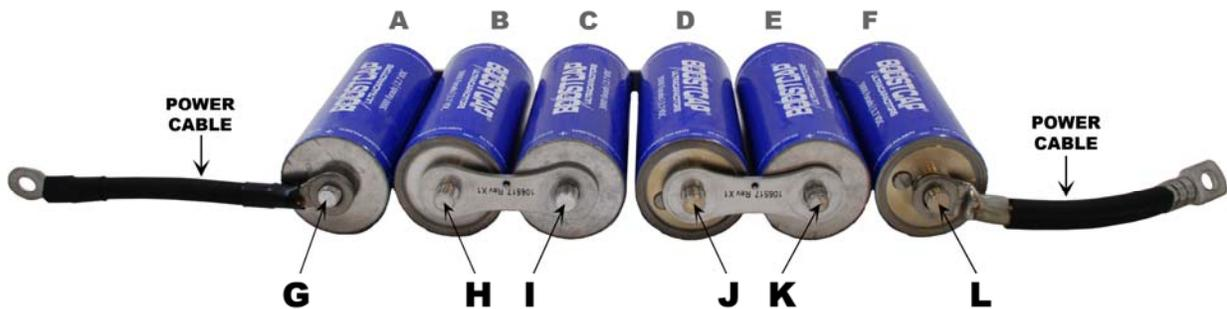

Figure 7
- 3.2.6 Place 1/8 inch thick lugs attached to power cables (1/0 AWG cables shown in Figure 7) over the remaining two threaded terminals of the cells at the ends of the series and a washer over each lug. (Figure 7, G and L). It is important to use a lug plus an aluminum washer that together have a minimum combined thickness of 1/8 inch. This prevents the voltage management boards (which are attached in the following step) from being stressed due to uneven stack up of the elements bolted to the cell.